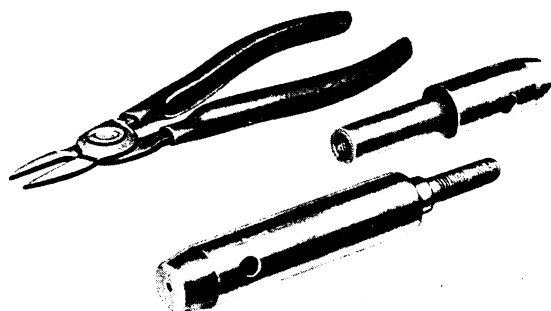

FIG. 34
5. Dry piston and mount service tool FTB.19 shown, with pliers, in Fig. 34, screwing the two sections together and tightening on gudgeon pin ends.
3. Mount gudgeon pin on service tool F.T.B. 19 Fig. 34.